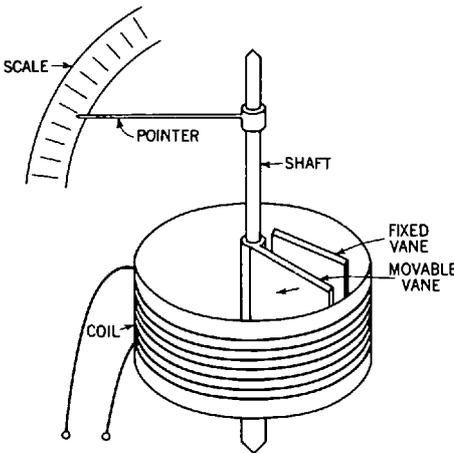

Fig. 32-23. Diagram of a moving-vane a-c meter.
**The Iron-Vane Type of Meter.** Another method is to construct a meter as shown in Figure 32-23. Two soft-iron pieces, or vanes, are placed inside of a coil of wire. One of these vanes is fixed, and the other is free to move. Attached to the movable vane is a shaft carrying a pointer. As current passes through the coil, the vanes become magnetized. Since they are magnetized in the same way (north pole to north pole and south pole to south pole), even though the direction of the current is